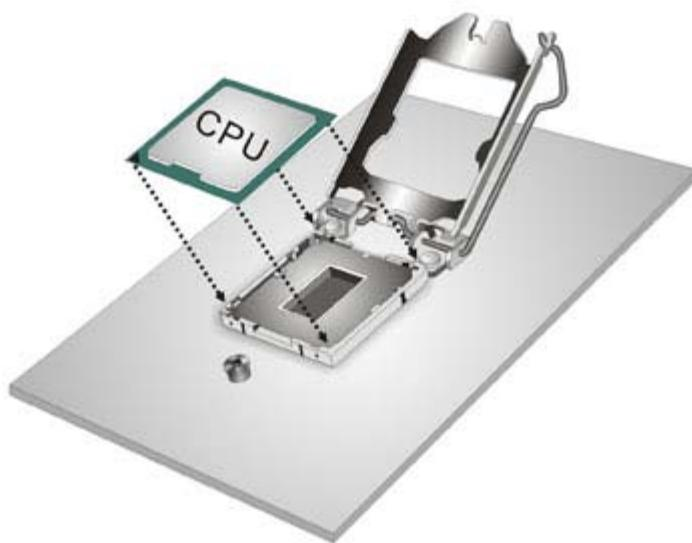

Figure 4-3: Insert the Socket LGA1365 CPU
- Step 7:** **Insert the CPU.** Gently insert the CPU into the socket. If the CPU pins are properly aligned, the CPU should slide into the CPU socket smoothly. See **Figure 4-3.**